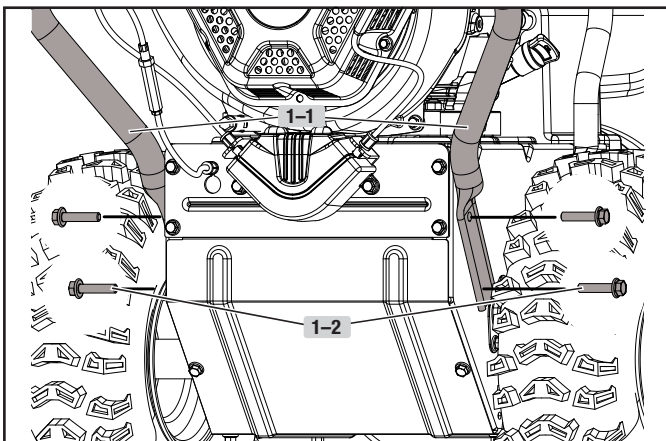

Figure 1
1. Attach the lower handle (1-1) onto the unit body with 4 self-tapping bolts (1-2) using included tool or your own 13mm wrench (Fig. 1).